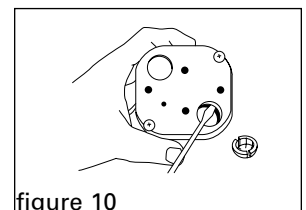

figure 10
7. Remove one of the knockouts from the electrical box and install the yellow wire connector (figure 10).